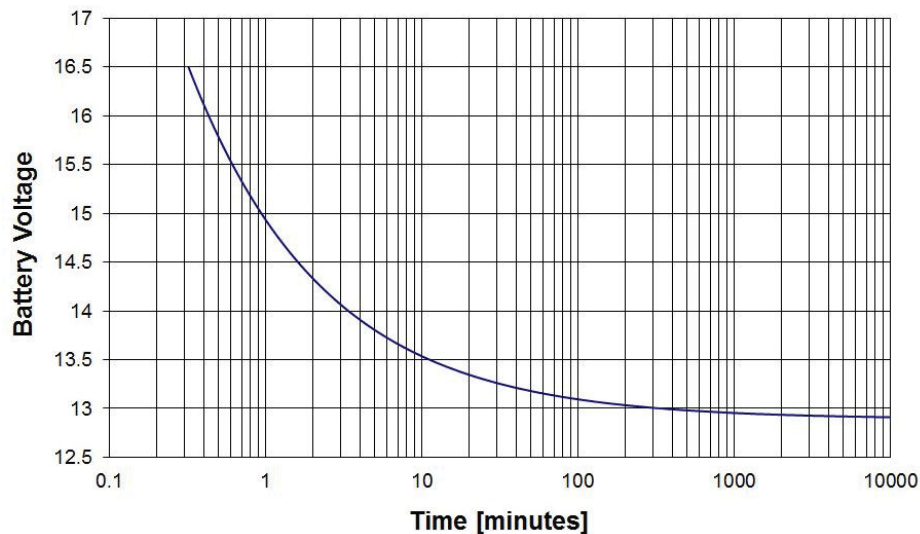

Figure 8-1, Ending Battery Voltage Verses Time
1. The charging voltage has stabilized over a period of time (see Figure 8-1).